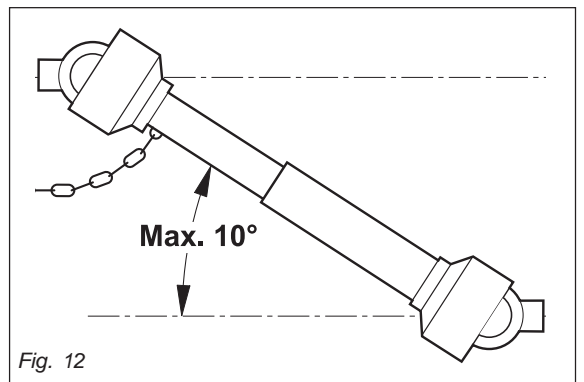

Fig. 12
- Always disconnect the PTO when the cardan shaft is at too wide an angle (never more than 10° , Fig. 12) and when it is not being used.